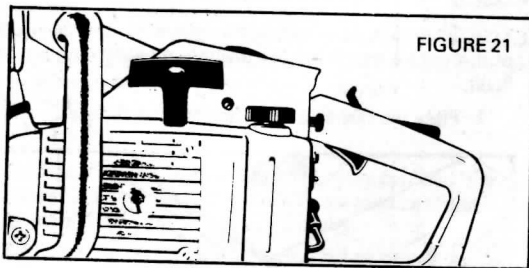

FIGURE 21
5. Release throttle trigger. The throttle is now partially open. (Figure 21).